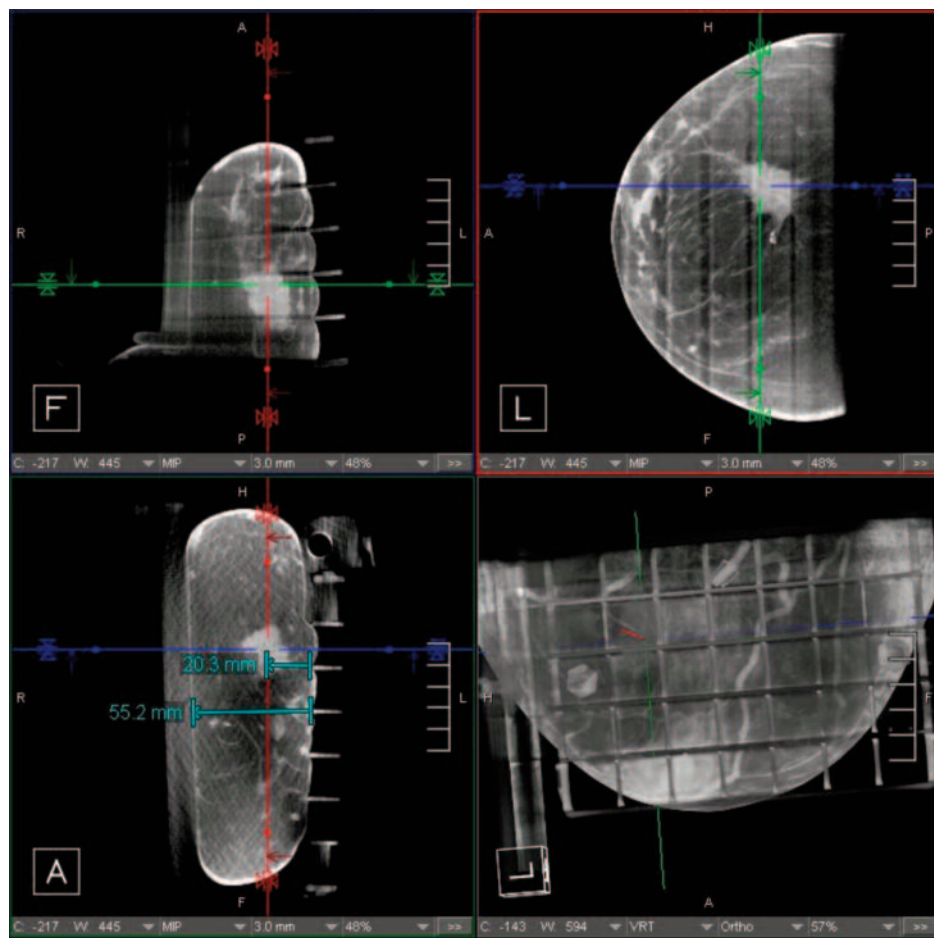

Figure B.3.1-3 Pre-biopsy images for targeting
- A pre-biopsy KBCT scan is performed (Figure B.3.1-3)